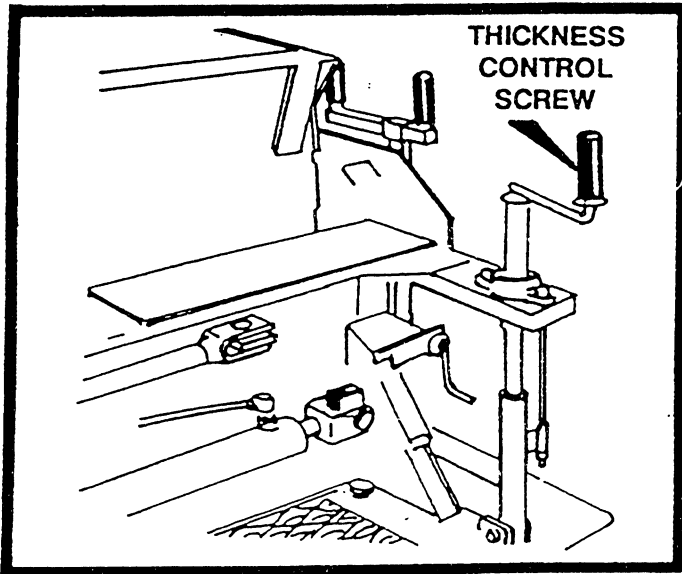

FIGURE 23
4. Level screed with flight screws until neutral position is felt. (Neutral position is when the pressure on the flight screw is same when screwing either clockwise or counter clockwise.) See figure 23.